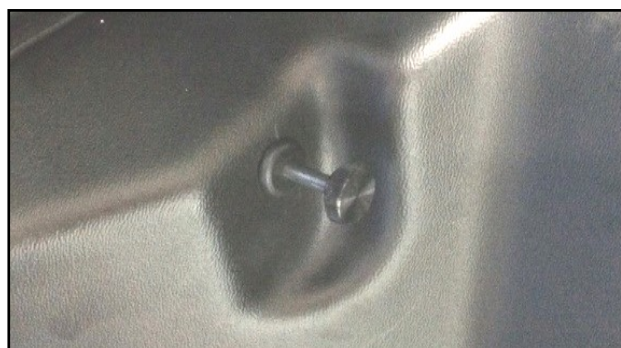

Figure 4.2a (Load Lock Lever, Cab inside)
4.2 Install Thumb Screw into previously installed Load Lock Lever Extension bracket (Step 1.10). Make sure there is enough thread on the inside for a hex nut to fit. Then thread and tighten on the hex nut on the inside. See Figures 4.2a and 4.2b.